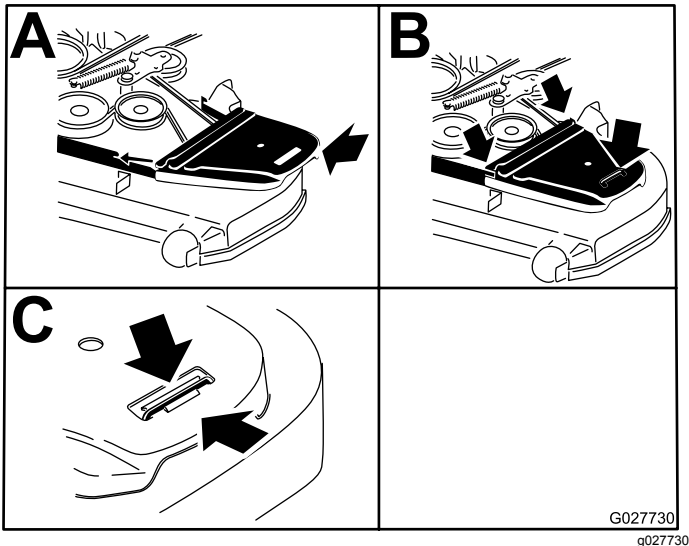

Figure 87
9. Install the belt covers (Figure 87).